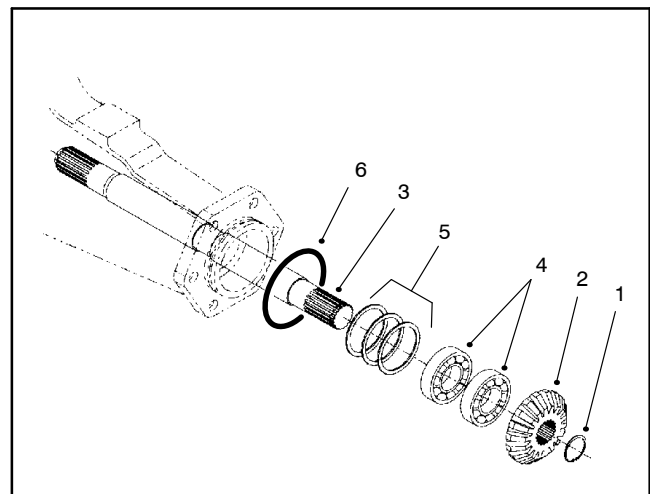

Figure 26
3. Remove the retaining ring and bevel gear (Fig 26).